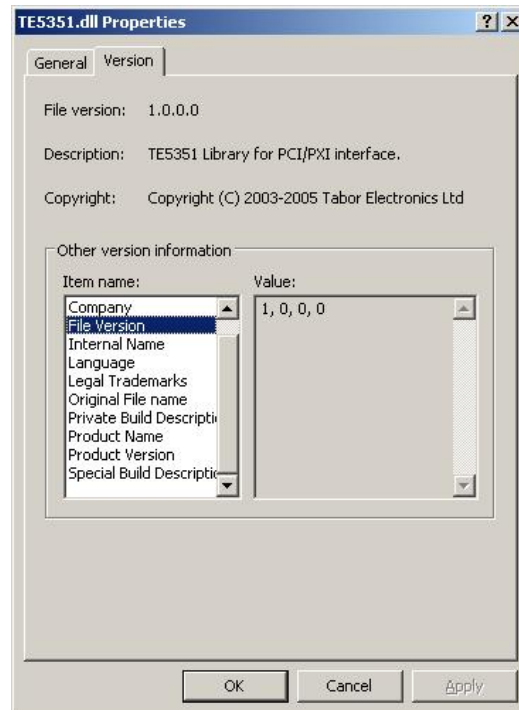

Figure 6-3, TE5251.dll Properties
1) Using Explorer, open the SYSTEM32 folder in the Windows directory and locate the file TE5251.dll. Right click with your mouse on the file name and select properties. Click on the Version tab and note the File version information as listed in this tab. The TE5251.dll Properties dialog box is shown in Figure 6-3.